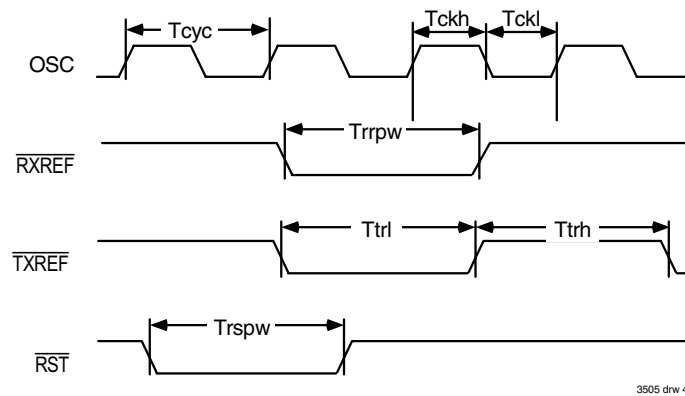

Figure 21. OSC, $\overline{\text{TXREF}}$ and Reset Timing
- 3/28/2001: Added $\overline{\text{RXREF}}$ waveform and pulse width information in Figure 21 and minor corrections.